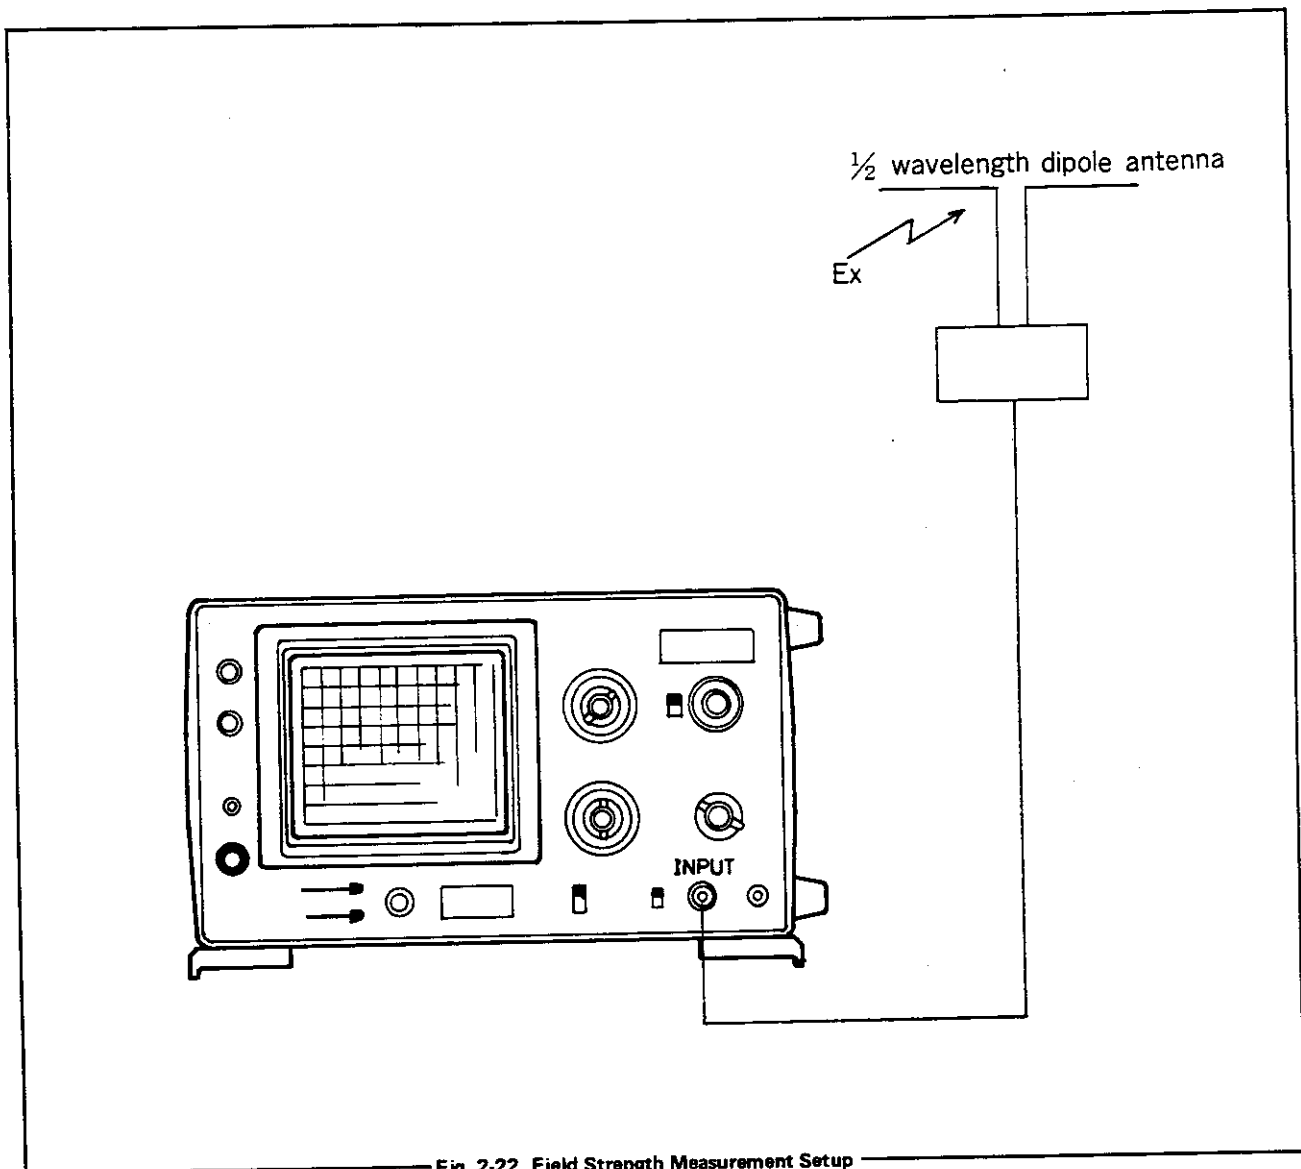
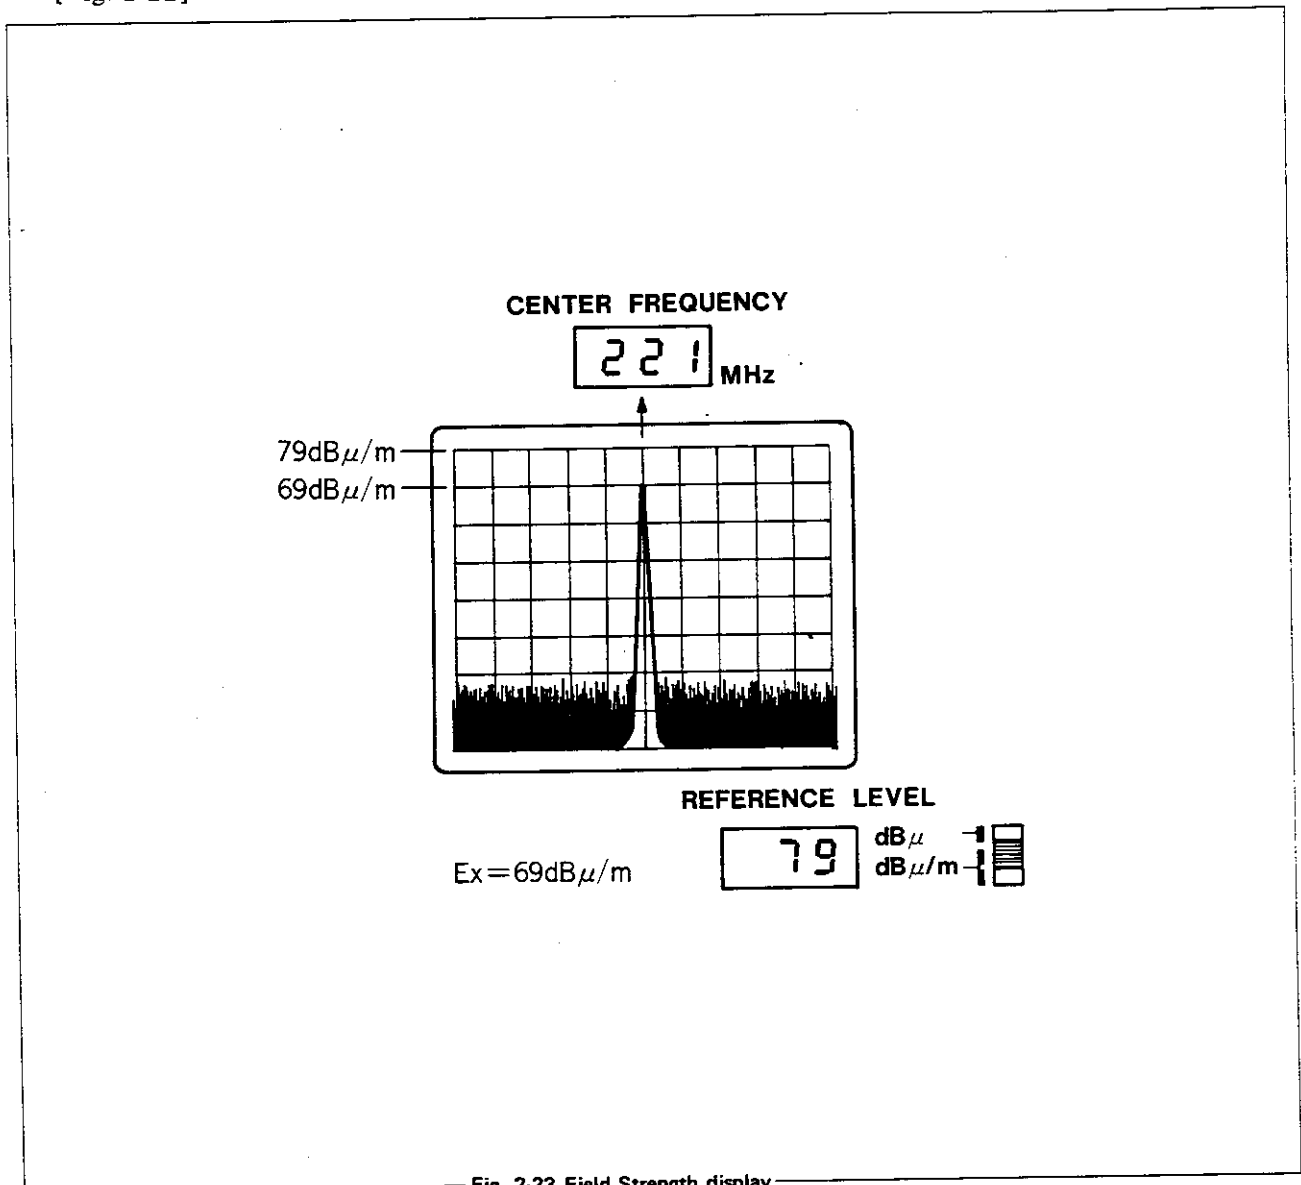

Fig. 2-22 Field Strength Measurement Setup
Fig. 2-23 Field Strength display
- (1) Calibrate the level [See Para 2-6-1] and frequency [See Para 2-6-2].
- (2) Connect the antenna to **INPUT** and set **REFERENCE LEVEL** to **ANTENNA-A** or **B** depending on the antenna used. [Fig. 2-22]
- (3) Select **DISPERSION/DIV.** to see the spectrum easiest.
- (4) Center the signal to be measured on the CRT display by **TUNING**.
- (5) The field strength ( $\text{dB}\mu/\text{m}$ ) with the antenna coefficient compensated for the frequency at the center of CRT display can now be observed below the reference line and is indicated on **REFERENCE LEVEL** display. [Fig. 2-23]